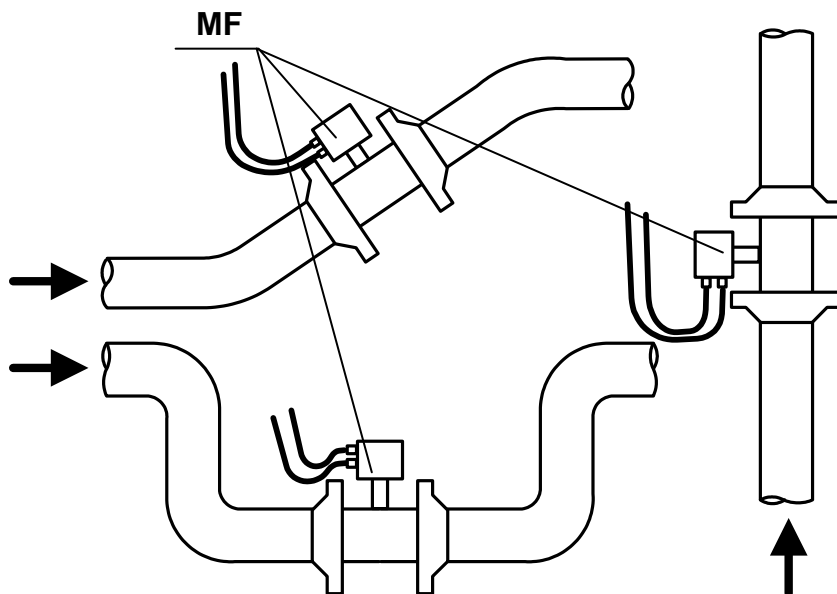

Fig.1. Recommended MF locations.
- To prevent air accumulation at the mounting location, the MF should not be placed at the upper point of the pipeline or in the open-ended pipeline; the best place to mount the MF (if applicable) is the lower or the uprising pipeline run (see Fig.1)